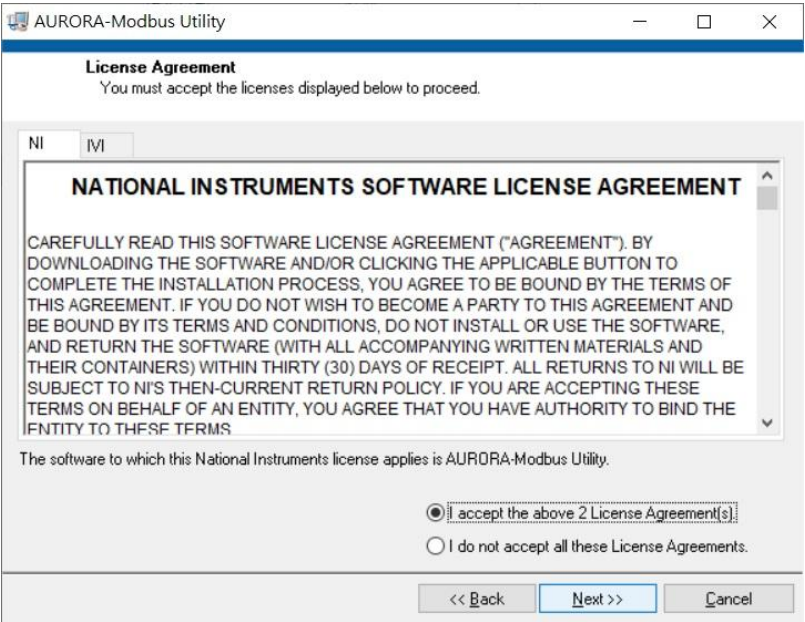

Figure1-8 Aurora Modbus Utility License Select
Step 3: Review license agreement, select 'I Accept', and click 'Next' (Figure1-8).